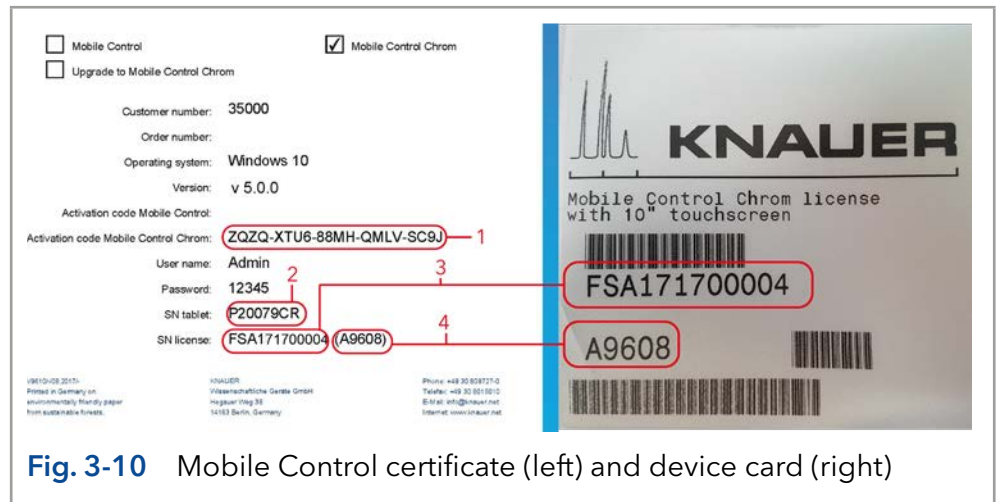

Fig. 3-10 Mobile Control certificate (left) and device card (right)
3. Add the serial number of your Mobil Control license before sending. You find it on the device card, delivered with your order. It begins with FSA (refer to Fig. 3-10).